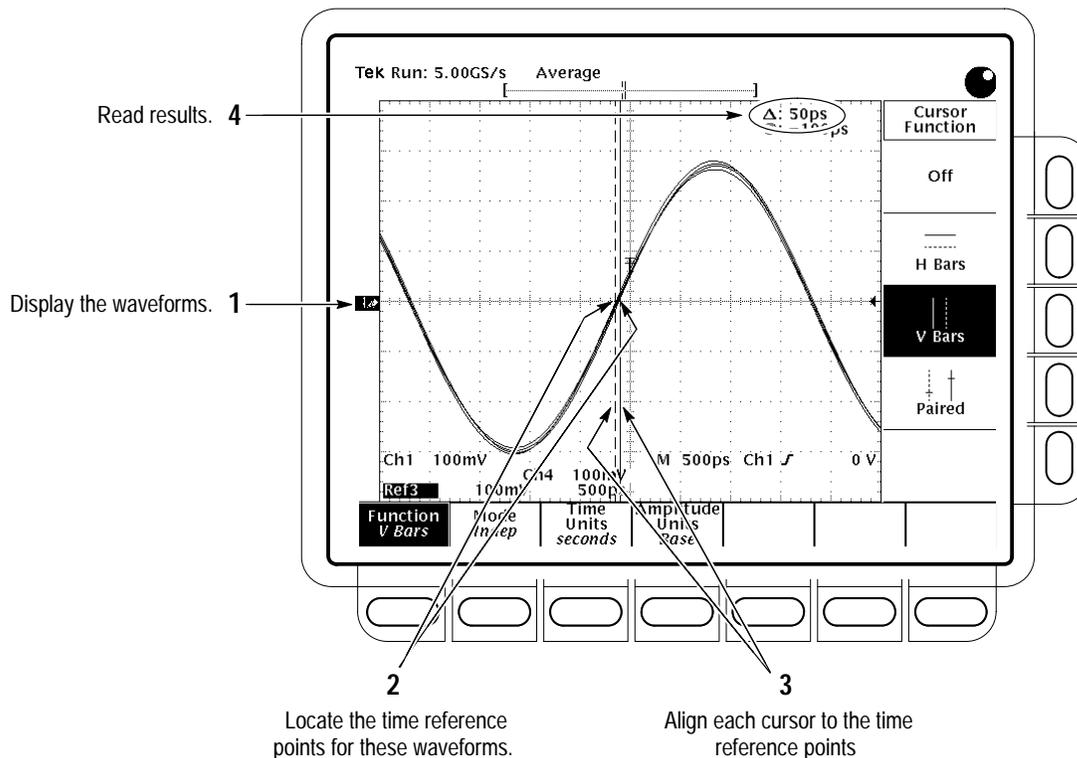

Figure 4–11: Measurement of channel delay – TDS 684B shown
- Align one V bar cursor to the *time reference point* of the left-most waveform edge and the other cursor to the *time reference point* of the right-most waveform edge by rotating the General Purpose knob. (Press **SELECT** to switch between the two cursors). See Figure 4–11 on page 4–41.